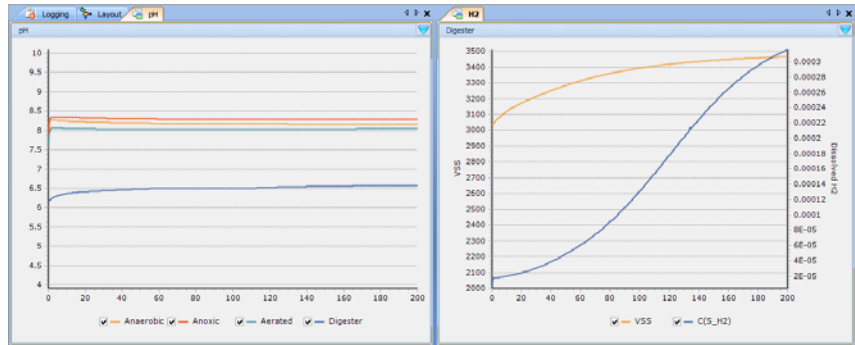
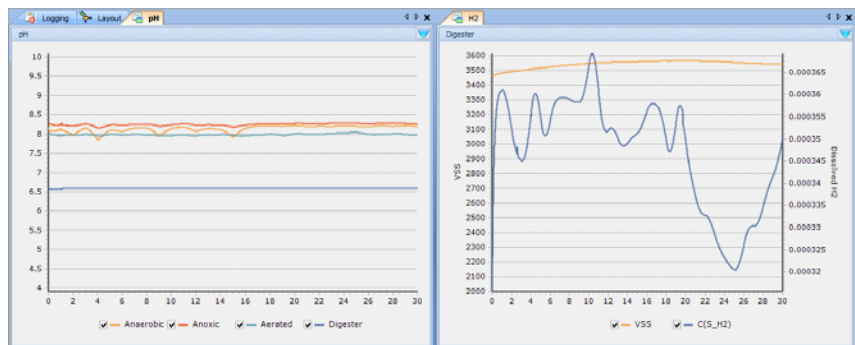

Figure 13.3 Steady-State simulation of the PWM_SA experiment
Figure 13.4 Dynamic simulation of the PWM_SA experiment
- The results are shown in Figure 13.3 and Figure 13.4